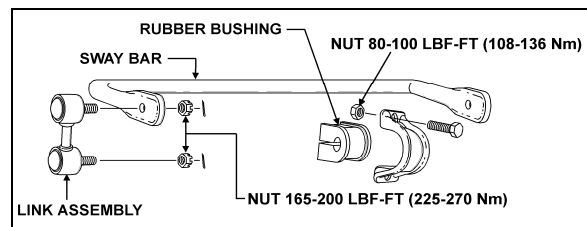

FIGURE 9: FRONT & DRIVE AXLE SWAY BAR
A sway bar is provided on the front axle to increase vehicle stability. It controls lateral motion (swaying movement) of vehicle (Fig. 9).
- Tighten the eight bushing collar nuts according to Torque Table 1 under heading Torque Specifications (Fig. 9).
3. Tighten sway bar link upper nuts and lower nuts according to Torque Table 1 under heading Torque Specifications (Fig. 9).